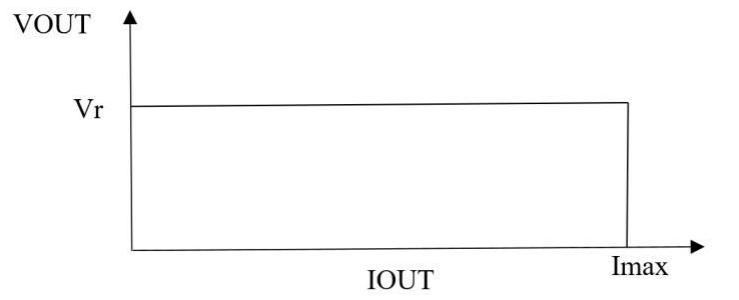

Figure 1: Plot of the output voltage versus output current for an ideal voltage regulator.
- 3.0. Background** – Regulators are specialized electronic circuits with the function of producing a constant voltage output independent of current and input voltage. Figure 1 shows the output voltage for an ideal voltage regulator as a function of output current.